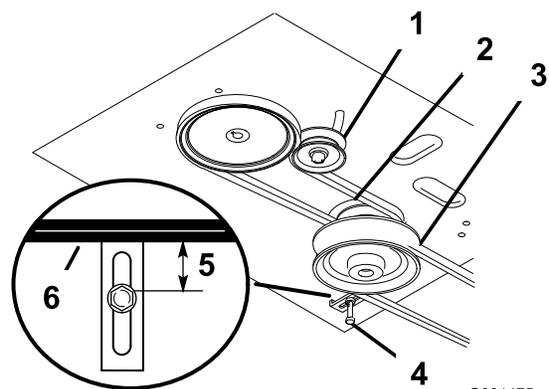

Figure 46
- 8. Check the belt guide under the engine frame for proper adjustment (Figure 46).
Note: The distance between the belt guide and the mower belt should be 19 mm (3/4 inch) when you engage the mower belt (Figure 46). Adjust the mower belt as necessary. The disengaged belt should not drag or fall off the pulley when the guides and belt tension are properly adjusted.